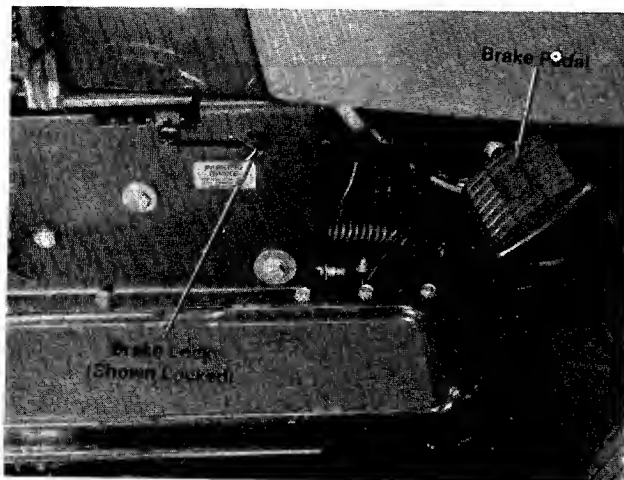

FIGURE 8.
**c. Brake.** The brake pedal is located on the right hand side of the mower and is operated by depressing it with your right foot. See figure 8.
**d. Brake Lock.** The brake lock is located on the right hand side of the mower. To lock the brake, depress the brake pedal and lift up the lock button. The pedal will stay depressed. To release, depress the pedal. See figure 8.